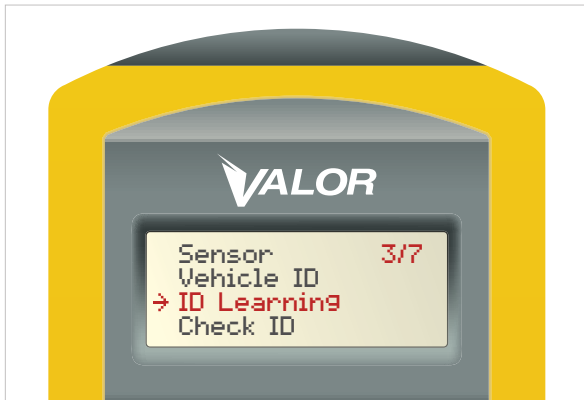

Figure 6
1. In Main menu scroll to “ID Learning” (item 3/7). (Figure 6)